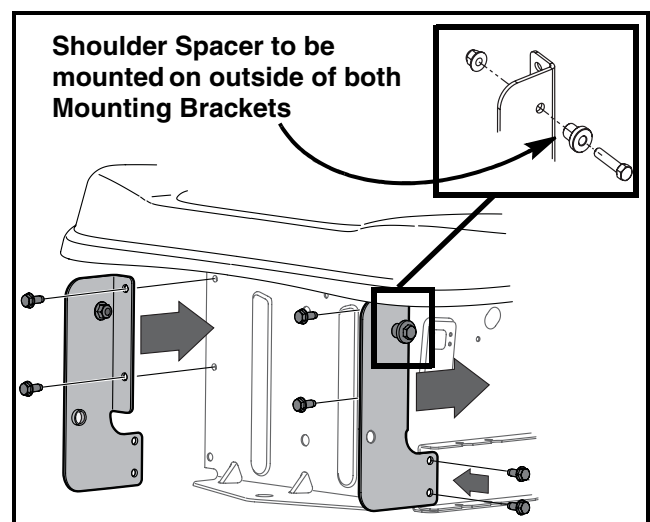

FIGURE 4
7. Starting on either the right or left side of the tractor, locate the appropriate side's Mounting Bracket (Item 7 or 8) and install the Mounting Bracket using four (4) Self-Tapping Screws, Item 1. Align and start all four screws before tightening. See Figure 4. Do the same for the other side.
8. Refer to Figure 4 Inset. For both Mounting Brackets, Items 7 and 8, install the Shoulder Spacer, Item 6, using a 3/8"-16 x 1.25" Hex Head Screw, Item 2, and a 3/8" Hex FlangeLock Nut, Item 4. Tighten securely.